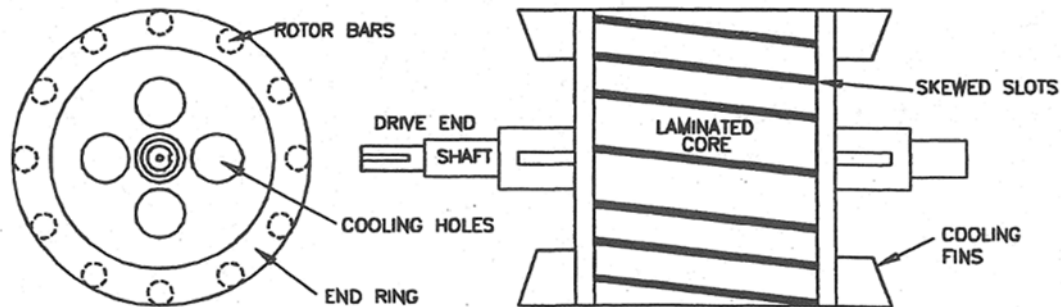

Figure 3 - Typical squirrel cage rotor construction
18. The typical squirrel cage rotor consists of comparatively large bars of conducting material (usual aluminium) cast into the slots in the rotor and joined at each end of the rotor with conducting 'end rings'. No insulation is necessary between the rotor bars and the laminated steel rotor core because the rotor winding has a much lower resistance than the rotor core. An outline of the construction of a typical squirrel cage rotor is shown in Figure 3, but you should bear in mind that rotor bars and end rings can have other shapes and they can be made from other materials (such as copper).